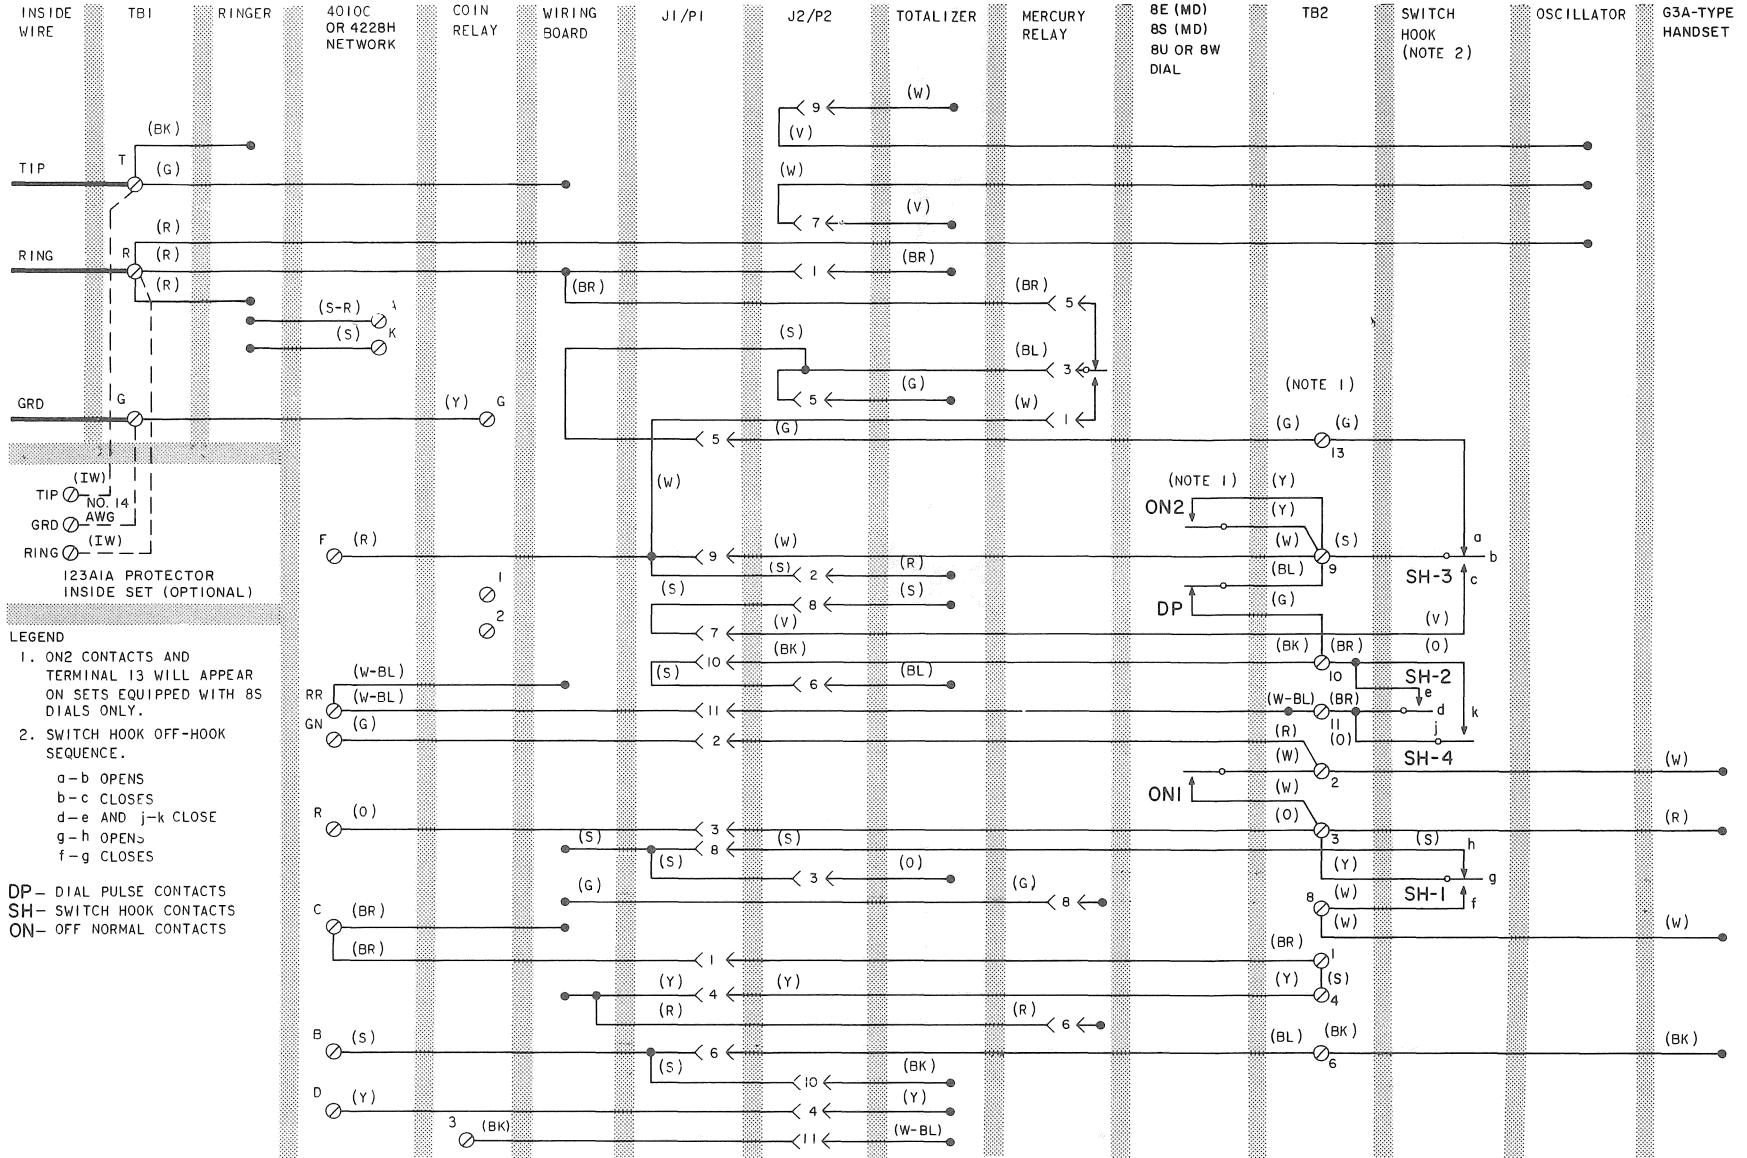

Fig. 60—1A1 or 2A1 Coin Telephone Set—Connections
8.01 Refer to Fig. 60 through 70 for connecting diagram.